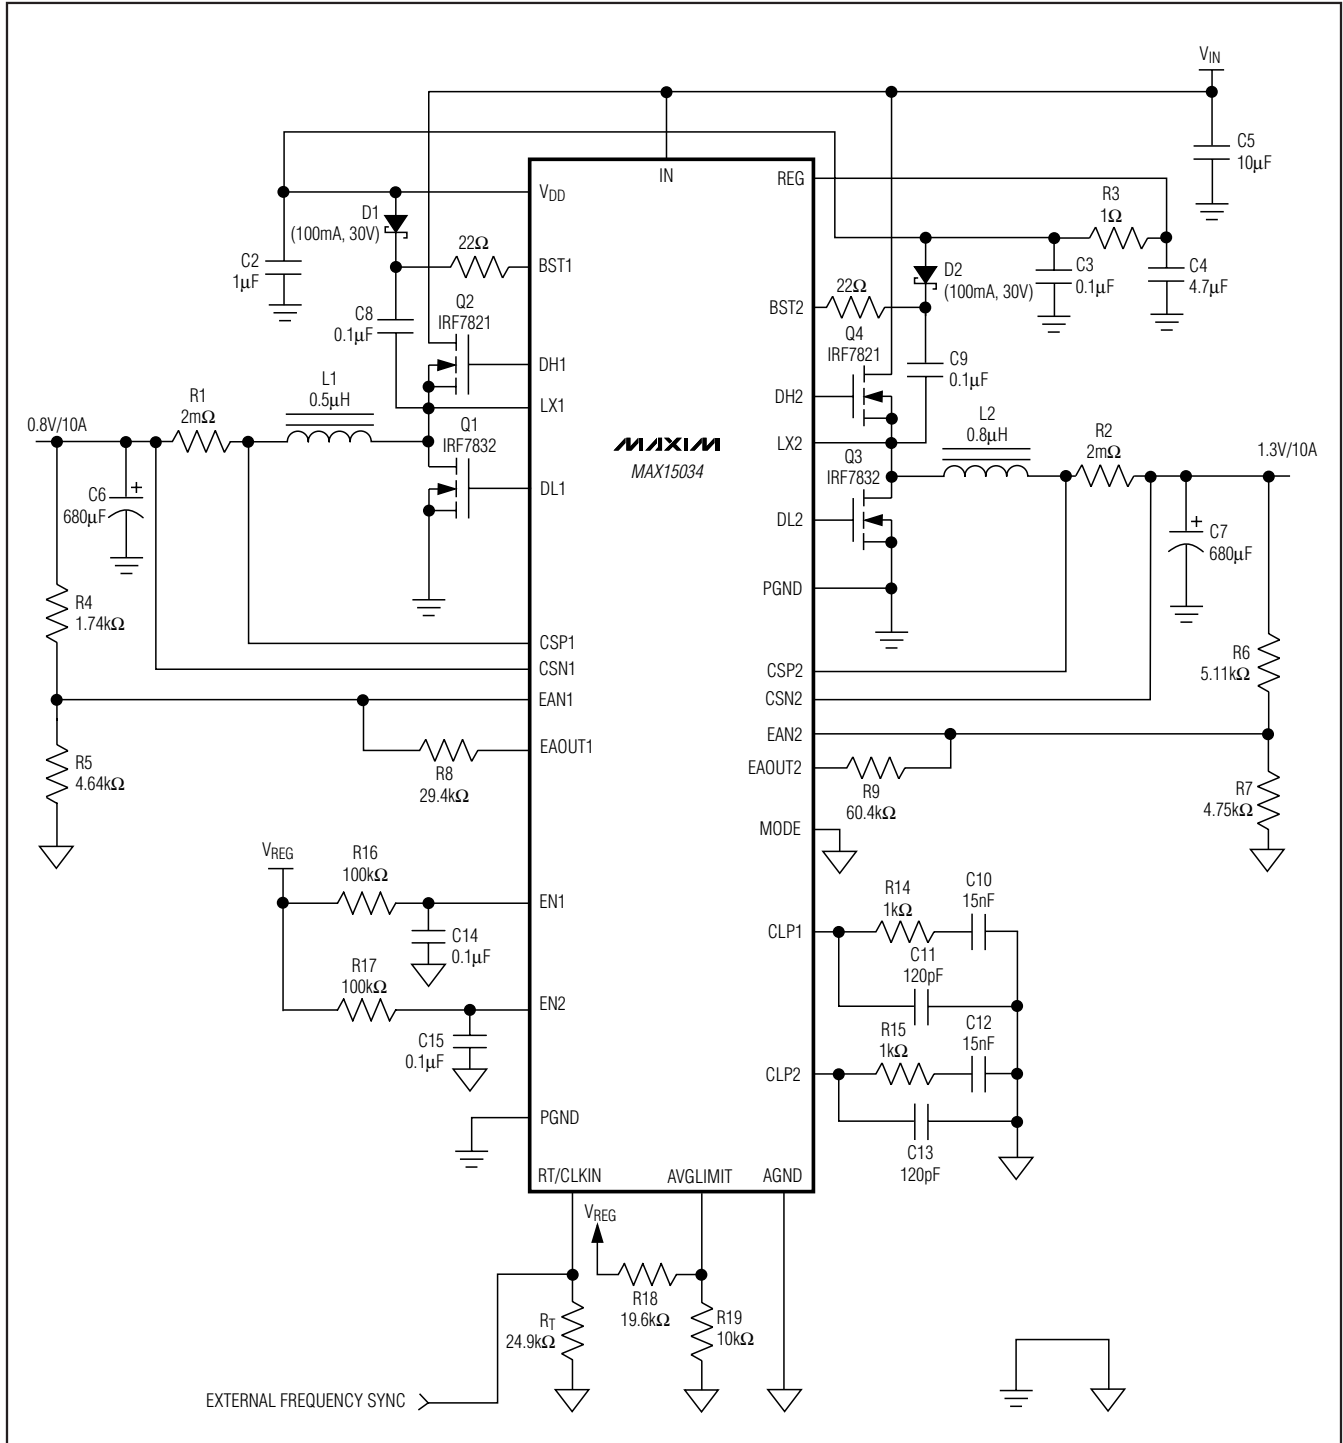
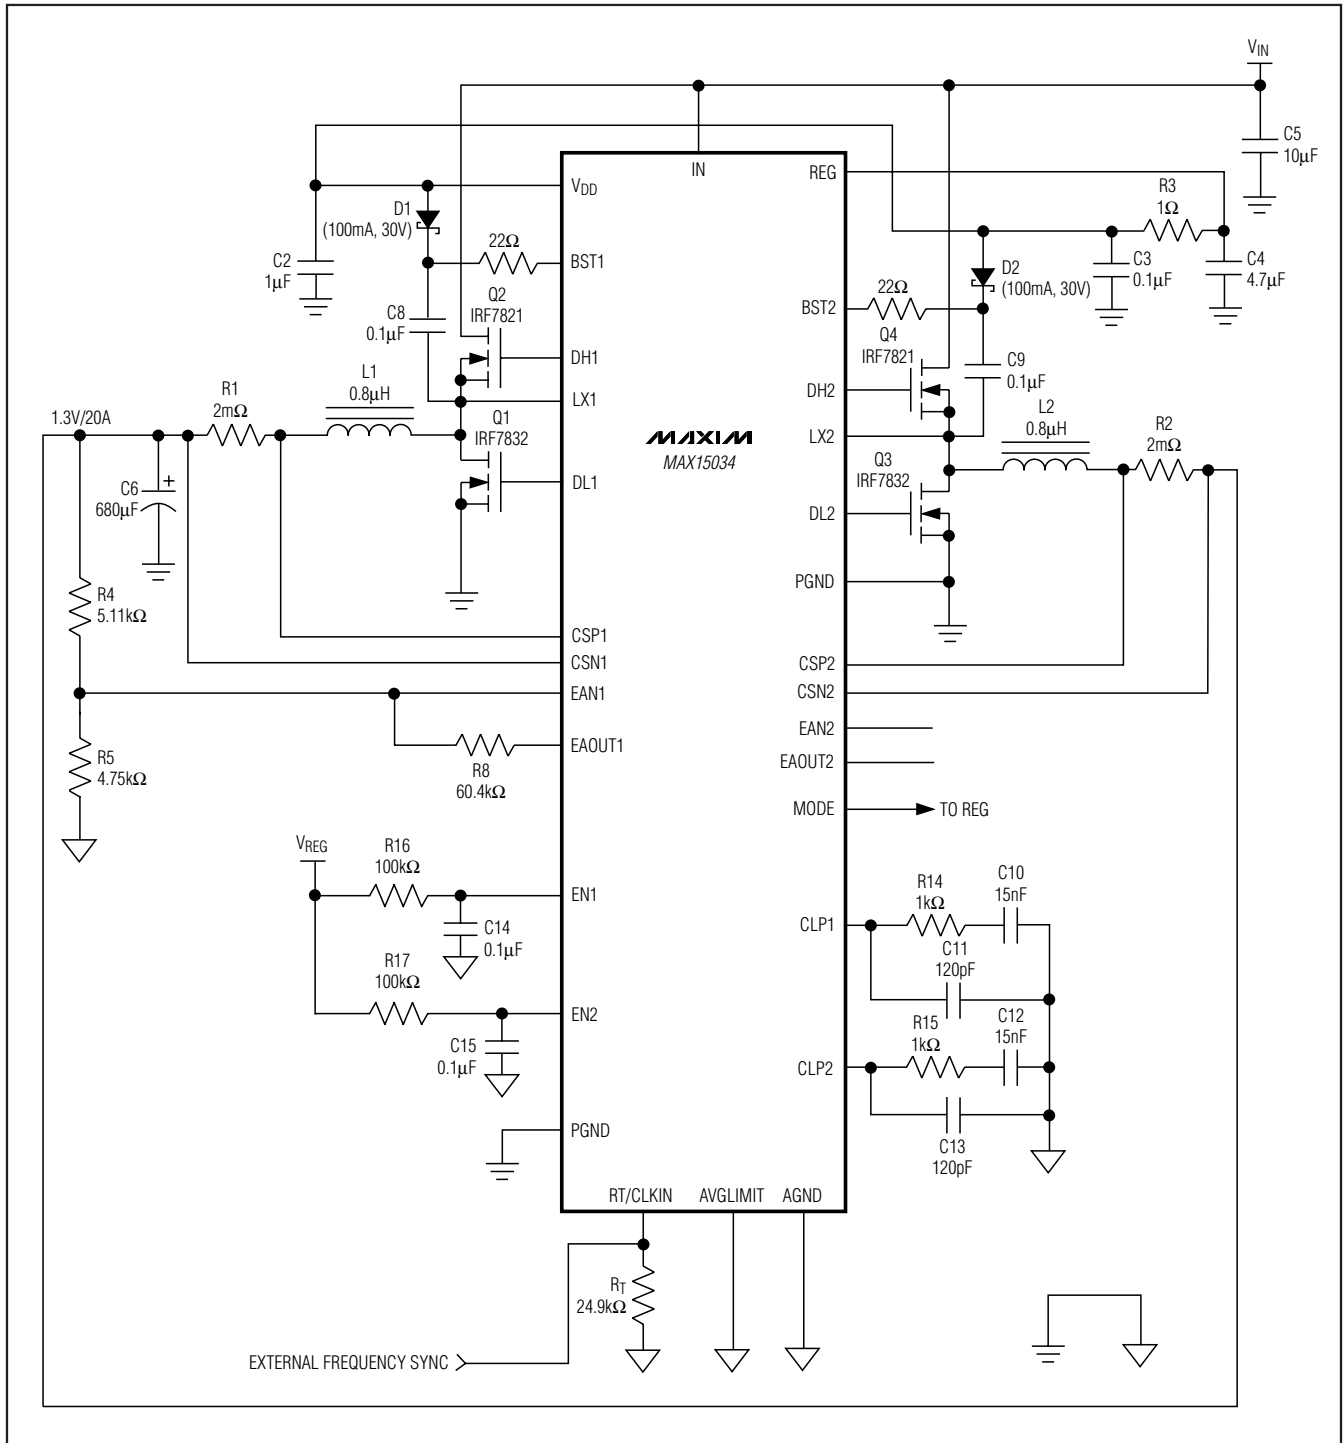

Figure 6. Dual-Output Buck Regulator
Figure 7. Dual-Phase, Single-Output Buck Regulator
where IIN is the quiescent supply current into IN (4mA, typ), QGQ1, QGQ2, QGQ3, QGQ4 are the total gate charges of MOSFETs Q1 through Q4 at VGS = 5V (see Figure 6), and fsw is the switching frequency of each individual phase.
BST1 and BST2 supply the power for the high-side MOSFET drivers for output 1 and output 2, respectively. Connect BST1 and BST2 to VDD through rectifier diodes D1 and D2 (see Figure 6). Connect a 0.1μF ceramic capacitor between BST\_ and LX\_.
Minimize the trace inductance from BST\_ and VDD to the rectifier diodes, D1 and D2, and from BST\_ and LX\_ to the boost capacitors, C8 and C9 (see Figure 6). This is accomplished by using short, wide trace lengths.
The compensation network at the current-error amplifiers (CLP1 and CLP2) provides an inherent soft-start of the output voltage. It includes (R14 and C10) in parallel with C11 at CLP1 and (R15 and C12) in parallel with C13 at CLP2 (see Figure 6). The voltage at the current-error amplifier output limits the maximum current available to charge the output capacitors. The capacitor at CLP\_ in conjunction with the finite output-drive current of the current-error amplifier yields a finite rise time for the output current and thus, the output voltage.
An internal oscillator generates the 180° out-of-phase clock signals required for both PWM modulators. The oscillator also generates the 2Vp-p voltage ramps necessary for the PWM comparators. The oscillator frequency can be set from 200kHz to 2MHz by an external resistor (RT) connected from RT/CLKIN to AGND (see Figure 6). The equation below shows the relationship between RT and the switching frequency:
cycle is less than 50%, choose high-side MOSFETs (Q2 and Q4, Figure 6) with a moderate  $R_{DS(ON)}$  and a very low gate charge. Choose low-side MOSFETs (Q1 and Q3, Figure 6) with very low  $R_{DS(ON)}$  and moderate gate charge. The driver block also includes a logic circuit that provides an adaptive nonoverlap time (30ns typ) to prevent shoot-through currents during transition. Figure 7 shows the dual-phase, single-output buck regulator.
where  $I_{MAX}$  is the full load current of the regulator.  $V_{OUT}$  is the output voltage of the same regulator and  $C_{IN}$  is C5 in Figure 6. The ESR of the input capacitors wastes power from the input and heats up the capacitor. Reducing the ESR is important to maintain a high overall efficiency and in reducing the heating of the capacitors.
where  $I_{LOAD\_STEP}$  is the step in load current and  $t_{RESPONSE}$  is the response time of the controller. Controller response time depends on the control-loop bandwidth.  $C_{OUT}$  is C6 and C7 in Figure 6.
where  $\Delta V_{OUT}$  is the allowable drop in voltage from no load to full load.  $R_F$  is  $R_8$  and  $R_9$ ,  $R_1$  is  $R_4$  and  $R_6$ ,  $R_2$  is  $R_5$  and  $R_7$  in Figure 6.